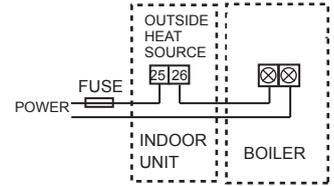

Fig. 6-12
2. If the external heat source needs one control signal of the specified voltage (such as 220-240V~ 50Hz), then it need to supply the control terminal 25 and 26 with corresponding power as describing in Fig.6-12.